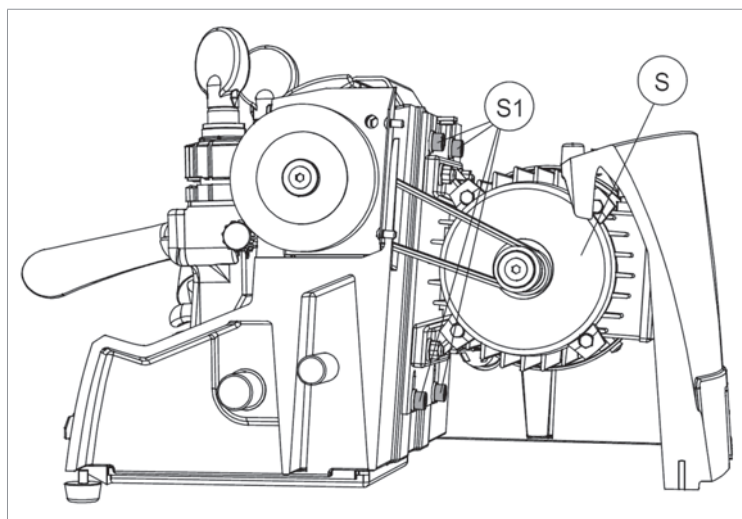

Fig. 55
- 6) Loosen the 4 screws (S1) of the plate motor (Fig. 55).
- 7) Loosen the 4 screws (S1) (Fig. 55) on the motor fixing plate and remove the belt.
- 11) Install the belt and tighten the 4 screws (S1) (Fig. 55) of the plate motor.